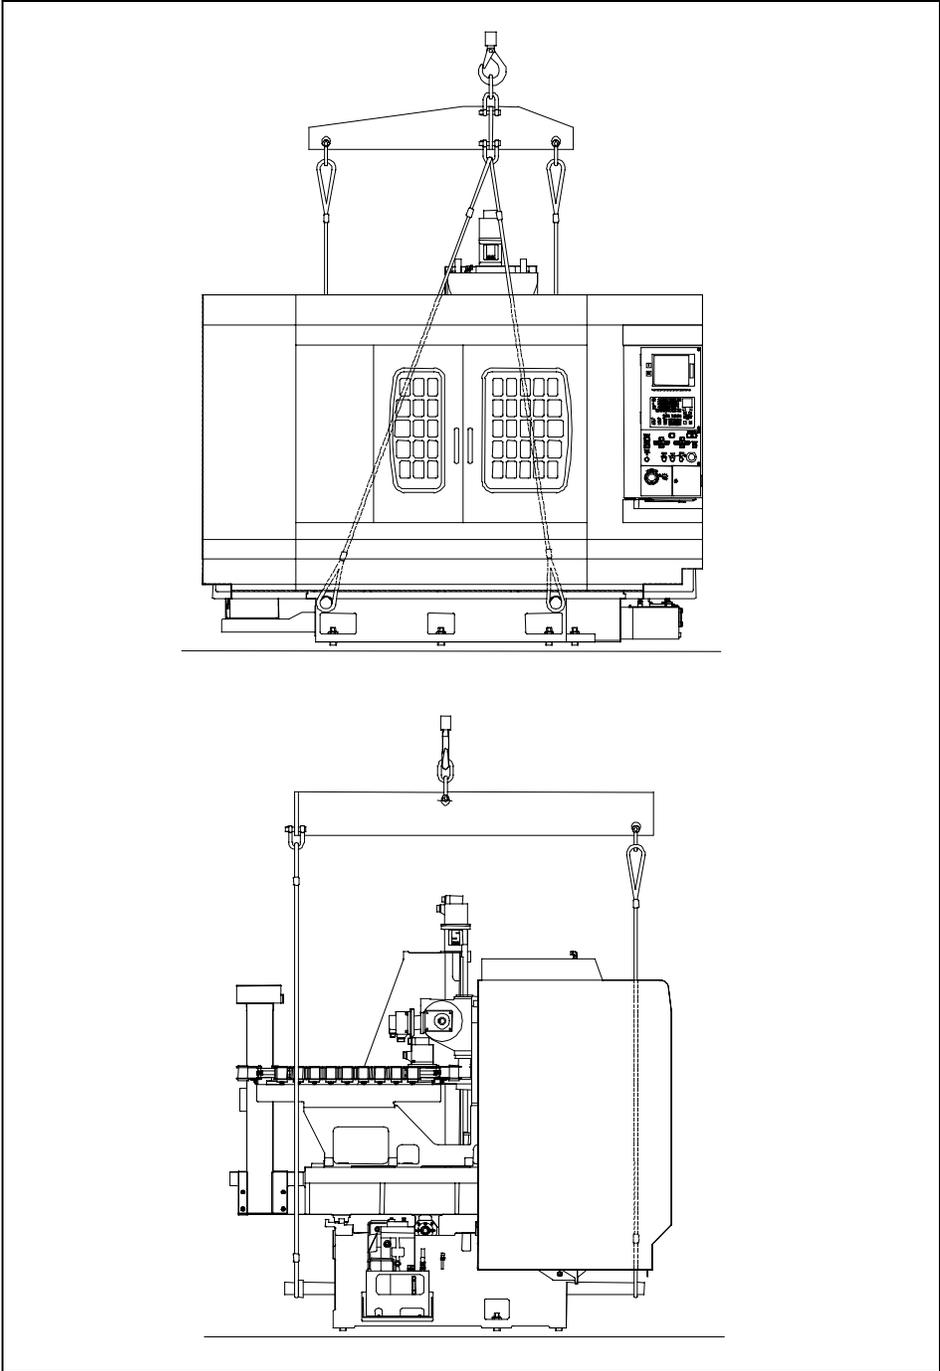

Fig. 6-1 Lifting the Machine
Lift the machine in the manner as shown in Fig. 6-1.
- (1) Firmly fix the head to a lower position and the column and saddle to an almost center position with respective shipping brackets.
- (2) Use a dedicated lifting attachment as shown in Fig. 6-1.
- (3) Use sufficiently thick wire ropes with no slack or tears.
- (4) Place wood blocks or pads between the machine and wire ropes so that the machine will not be damaged by direct contact of the wire ropes.
- (5) When lifting the machine, pay attention so that the wire ropes will not touch the piping, hydraulic equipment, wiring, control equipment, and covers.
- (6) Make sure that the drain ports of hydraulic oil tank, coolant tank, and lubricating oil tank are all securely tightened so that oil will not leak.
- (7) When carrying the machine using rollers, pay attention so that impact will not be applied to the machine.